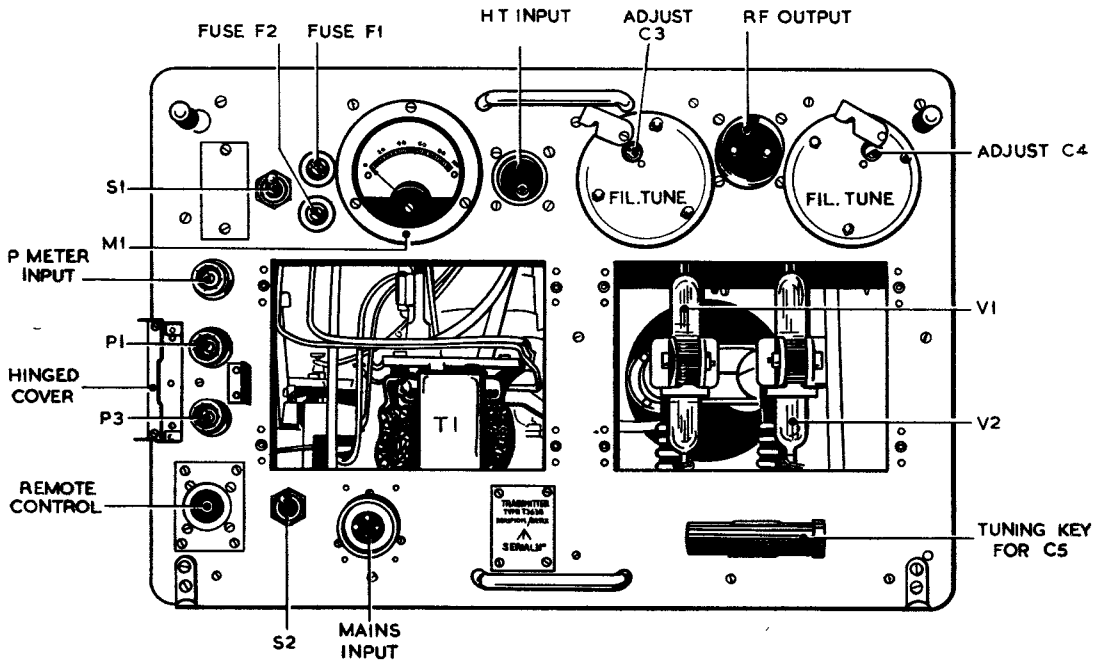
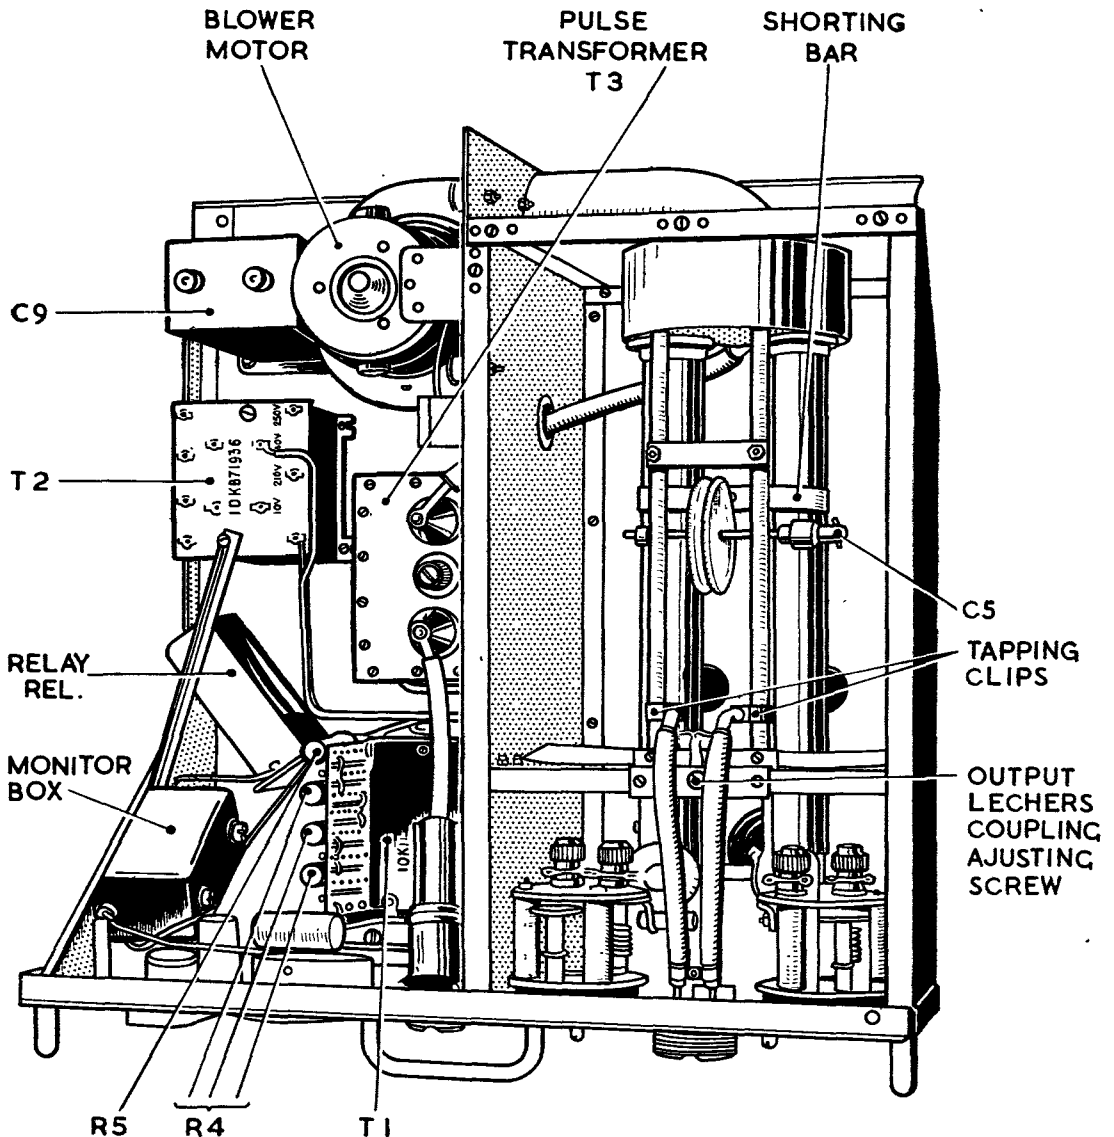

Fig. 15. Transmitter Type T.3638 : front panel
Fig. 16. Transmitter Type T.3638 : interior
#### Preliminary adjustment (fig. 16)
- (1) Verify that the mains input leads are connected to the 0 and 230V tags on transformer T2 at the centre left of the chassis (*fig. 16*).
- (2) Check that the pulse transformer T3 (centre right of the chassis) is out of circuit, and that the HT input is taken to a stand-off insulator on the side of the oscillator compartment.
- (3) Remove the screws securing the lid of the oscillator compartment and slide the anode lechers shorting bar about half way along the lechers.
- (4) Adjust the spacing between the plates of the output lechers tuning condenser (C5) to be about  $\frac{3}{8}$  in. to  $\frac{1}{2}$  in.
- (5) Insert a screwdriver through one of the holes marked FIL TUNE on the front panel (*fig. 15*); turn the control fully counter-clockwise and then back  $1\frac{1}{2}$  turns; do the same with the other control.
- (6) Set the tapping clips on the output lechers (*fig. 16*) so that the edges of the clips nearer the valves are  $\frac{3}{8}$  in. from the output lechers shorting bar.
- (7) Set the output lechers coupling screw (*fig. 16*) about halfway; i.e., about three turns from either extreme.
- (8) Replace the transmitter on the runners without its dust cover. Reconnect the mains and aerial leads.
**56.** Turn the MAINS switch to its ON position (*fig. 15*); the blower motor should then be heard and the oscillator valve filaments should light. Now proceed as follows :—
C4 and C5 (*fig. 15 and 16*) to give a substantially square pulse envelope of maximum amplitude. The pulse width should be about 2 microseconds; it can be checked with the calibration facilities offered by monitor Type 33.